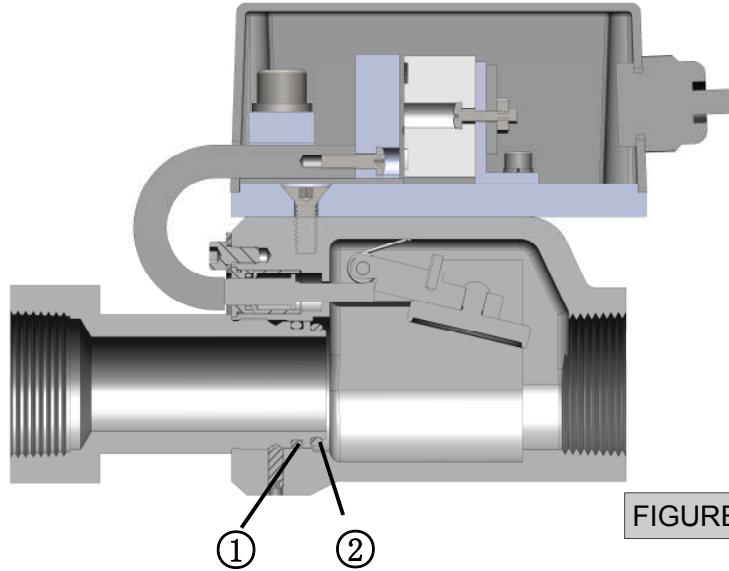

FIGURE 5
**1-1/4" Valve Service Kit Number FS125-0022 (See FIGURE 5 for item numbers.)**
**1-1/2" Valve Service Kit Number FS150-0022 (See FIGURE 5 for item numbers.)**